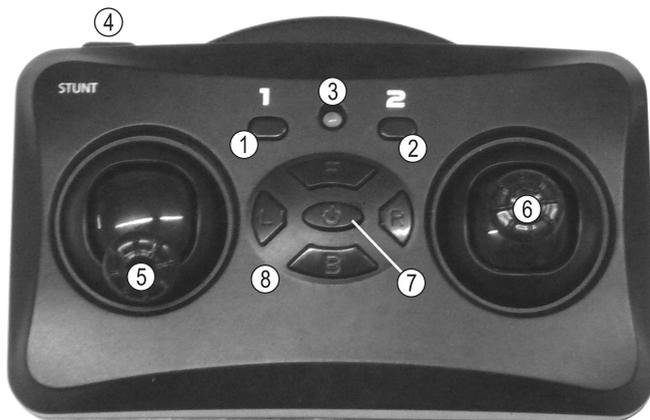
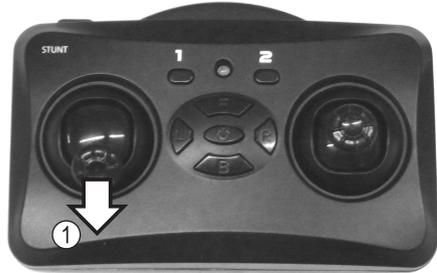
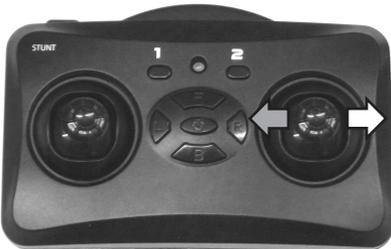

Figure 9
Figure 10
Figure 15
**Step 1:** Now move the joystick for the pitch and yaw function (see also Figure 9, no. 5) to the lowest position = motor off position (Figure 10).
The transmitter emits a short beep and the LED indicator light on the transmitter (see also Figure 9, no. 3) starts to flash.
- Now move the joystick for the pitch and yaw function (see Figure 9, no. 5) to the lowest position (motor off position). The propellers should stop.
- Now switch off the transmitter by pressing and holding down the on/off switch (see Figure 9, no. 7) for approx. 1 second until the transmitter emits two short beeps. The LED indicator light on the transmitter (see also Figure 9, no. 3) will go out.
With the pitch function you can control the flight altitude of the quadcopter (see Figure 13). Use the left joystick for steering (see also Figure 9, no. 5). The joystick can be moved forward and backward without springing back into the centre position, unlike with the other control functions.
If you move the left joystick (see Figure 9, no. 5) to the left, the electronics in the model increase the speed of the propellers that turn to the right (clockwise, as seen from above) and at the same time reduce the speed of the propellers turning to the left (anti-clockwise). Thus, the total lift remains the same, but now a torque acts on the model that turns the quadcopter on the vertical axis to the left (as seen from above).
The roll function allows you to move the quadcopter sideways to the right and to the left (see Figure 15). Use the right joystick for steering (see also Figure 9, no. 6).
If you steer to the right on the transmitter, the opposite propeller speed changes occur and the model flies sideways to the right (see arrows in Figure 15).
The bob function allows you to move the quadcopter forwards and backwards (see Figure 16). Use the right joystick for steering (see also Figure 9, no. 6).